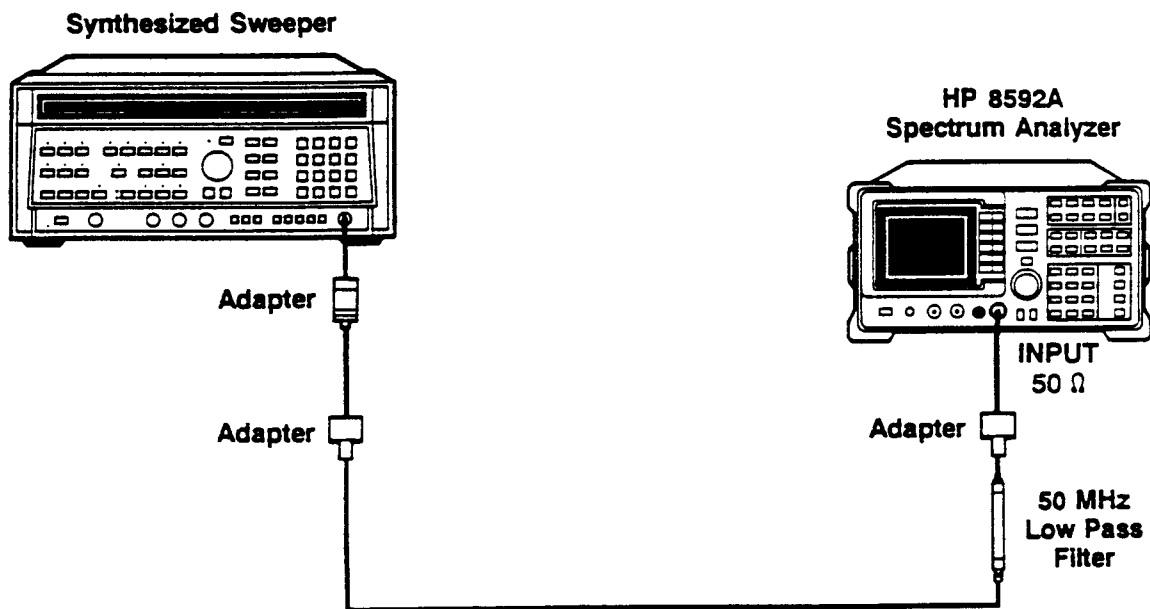

Figure 1-3. Second-Harmonic Distortion Test Setup (<2.9 GHz)
2. Connect the equipment as shown in Figure 1-3.